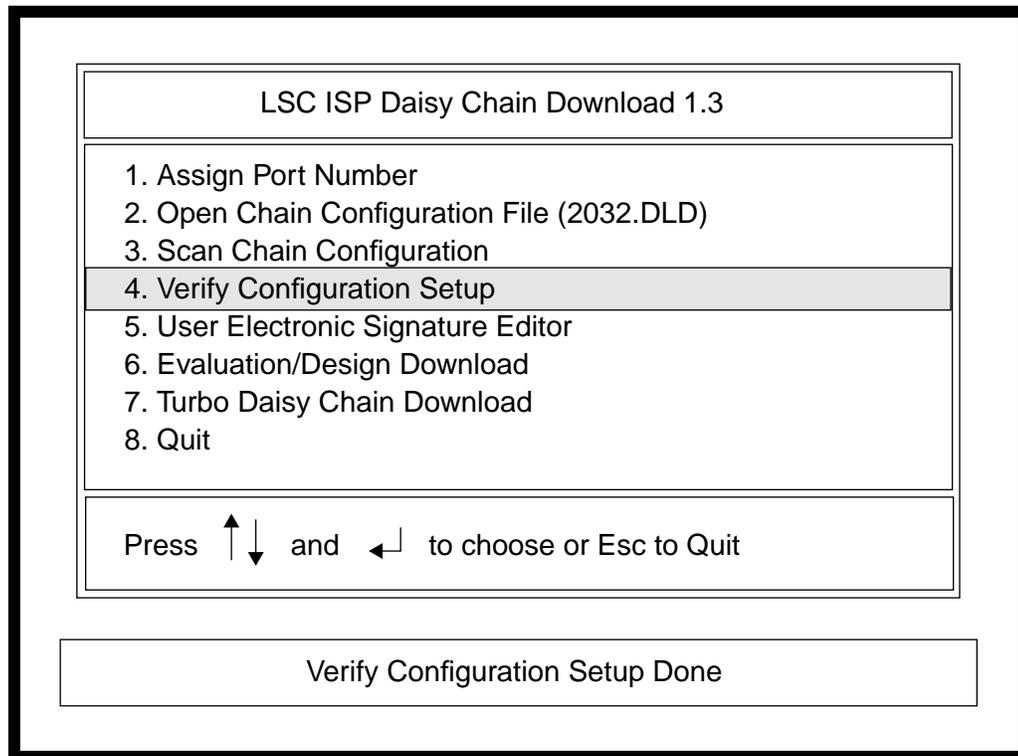

Figure 3-47. Verify Configuration Setup Screen
1. Select **4** or **V** from the IDCD menu (Figure 3-47) and the following message appears in the Message Display Area: